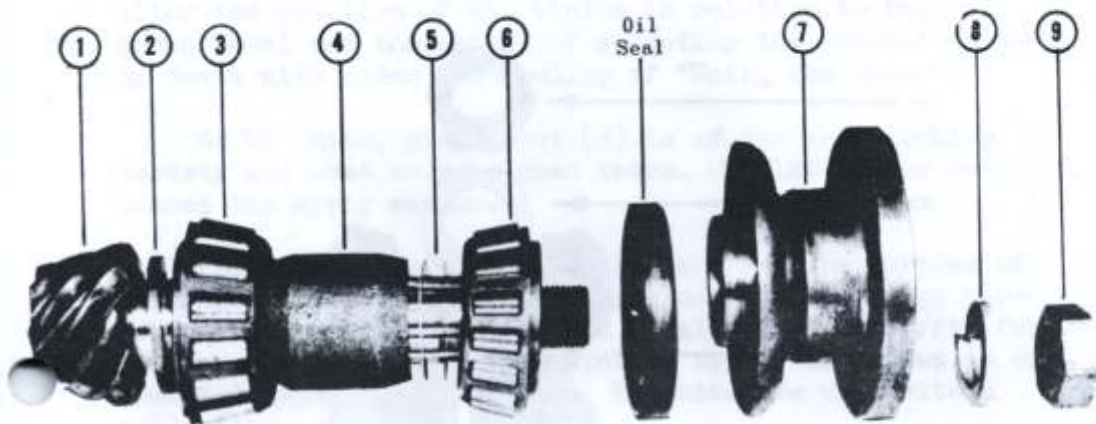
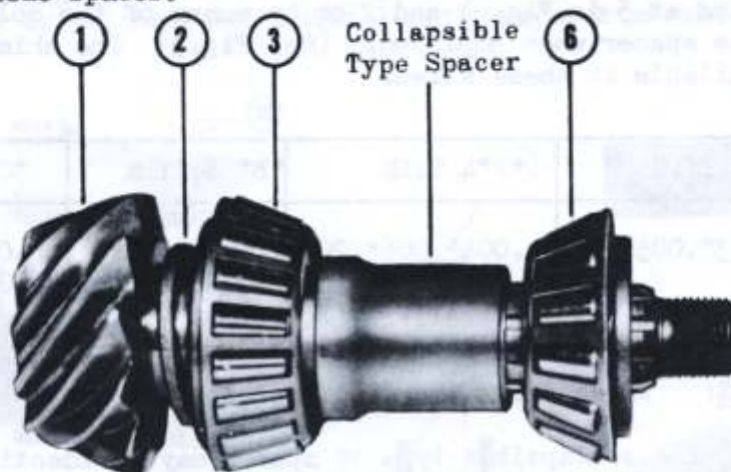

Fig. 1.
Fig. 3.
Firstly, look at the components of the pinion assembly as shown in Figs. 1 and 2. No.2 is the pinion locating spacer, which comes in various thicknesses as follows,
The shim washers shown at (5) are for the purpose of obtaining adjustment of pinion preload and the large pinion nut (9) should be tightened finally to 140 lbs/ft. for all types except when a collapsible spacer is fitted as on some "A" types. (See Fig. 3.) No shims are used with a collapsible spacer.
Adjustment of preload is effected by altering the shims at 5 in Fig. 1 and 2 or by means of the collapsible spacer when employed. (See Fig.3) The shims are available in these sizes.
The collapsible type of spacer may be identified by the fact that it is of steel construction and machined all over as in Fig. 3. With this type, the pinion nut is tightened to such an extent that the spacer is caused to collapse slightly and give us the correct preload. The tension figure of 140 lbs/ft. will not normally be exceeded in obtaining the correct preload.
When preparing to measure pinion depth, the pinion should be assembled in the housing and the preload set to the figures given. If the pinion assembly has been dismantled, it is not necessary to rebuild it completely for the purpose of this check. The spacer (4) and shims (5) Figs. 1, 2 and 3 may be left out and the nut (9) should be tightened only sufficiently to enable the prescribed preload to be obtained. The pinion head has various figures etched on it, and these should be carefully stoned down so that the magnet of the gauge tool will sit squarely and accurately on the pinion head.
If a check only is required, the original pinion locating washer (2) Fig. 1, 2 and 3 should be left in the assembly. If new parts are being used, start with a washer (2) half way through the range. For example, on an "A" type axle the spacers are available in the range .116" - .130" in steps of .002". Therefore we select a .124" spacer for a start, then assemble the pinion to the housing and take a pinion depth reading. It may then be necessary to alter the spacer size to obtain the correct setting.
Once the pinion depth spacer has been selected, the pinion assembly may be completed as per Fig. 1, 2 or 3. The pinion nut should be tightened to 140 lbs./ft for A, B, and C types and the preload should be re-checked. If the collapsible type pinion spacer is used, the nut should be tightened sufficiently to obtain the correct preload setting.